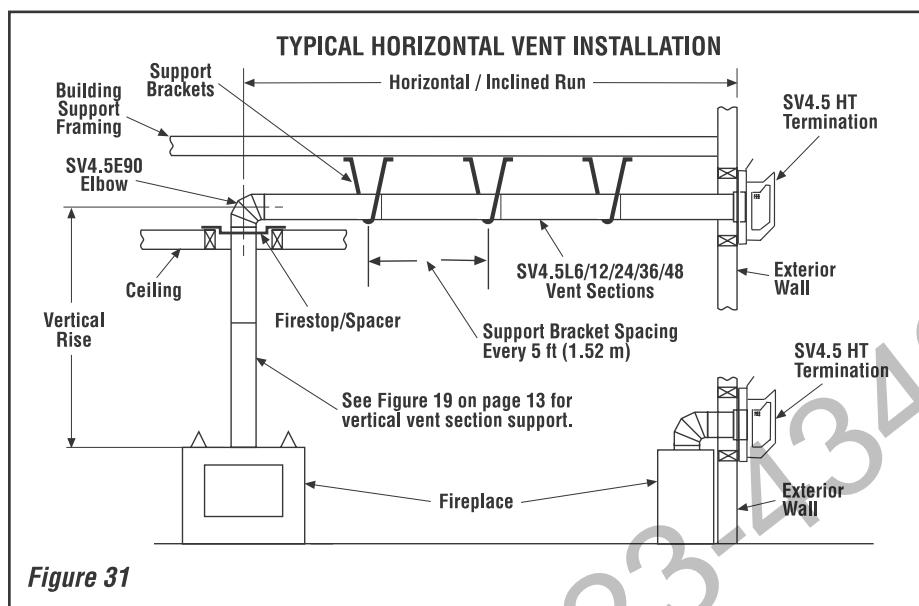

Figure 31
Figure 31, and Figures 34 to 36 on pages 20 and 21 and their associated Horizontal Vent Table illustrate the various horizontal venting configurations that are possible for use with these appliances. **Secure Vent** pipe applications are shown in these figures; **Secure Flex** pipe may also be used. A Horizontal Vent Table summarizes each system's minimum and maximum vertical and horizontal length values that can be used to design and install the vent components in a variety of applications.
I. Continue installation of horizontal/inclined sections - Continue with the installation of the straight vent sections in horizontal/inclined run as described in **Step E**. Install support straps every 5 ft. (1.52 m) along horizontal/inclined vent runs using conventional plumber's tape. See **Figure 31**. **It is very important that the horizontal/inclined run be maintained in a straight (no dips) and recommended to be in a slightly elevated plane, in a direction away from the fireplace of 1/4" rise per foot (20 mm per meter) which is ideal, though rise per foot run ratios that are smaller are acceptable all the way down to at or near level.** Use a carpenter's level to measure from a constant surface and adjust the support straps as necessary.